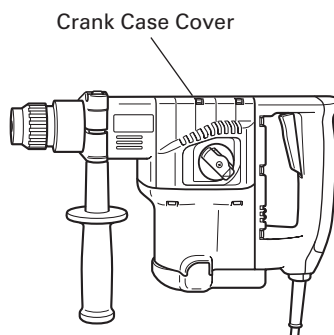

Fig. 21
- (1) Disassemble the crank cover and thoroughly wipe off the old grease inside. (Fig. 21)
- (2) Supply 30g (the standard volume to cover the connecting rod) of Hitachi Electric Hammer Grease A in the crank case.
- (3) After replacing the grease, reassemble the crank cover securely. At this time, do not damage or lose the oil seal.